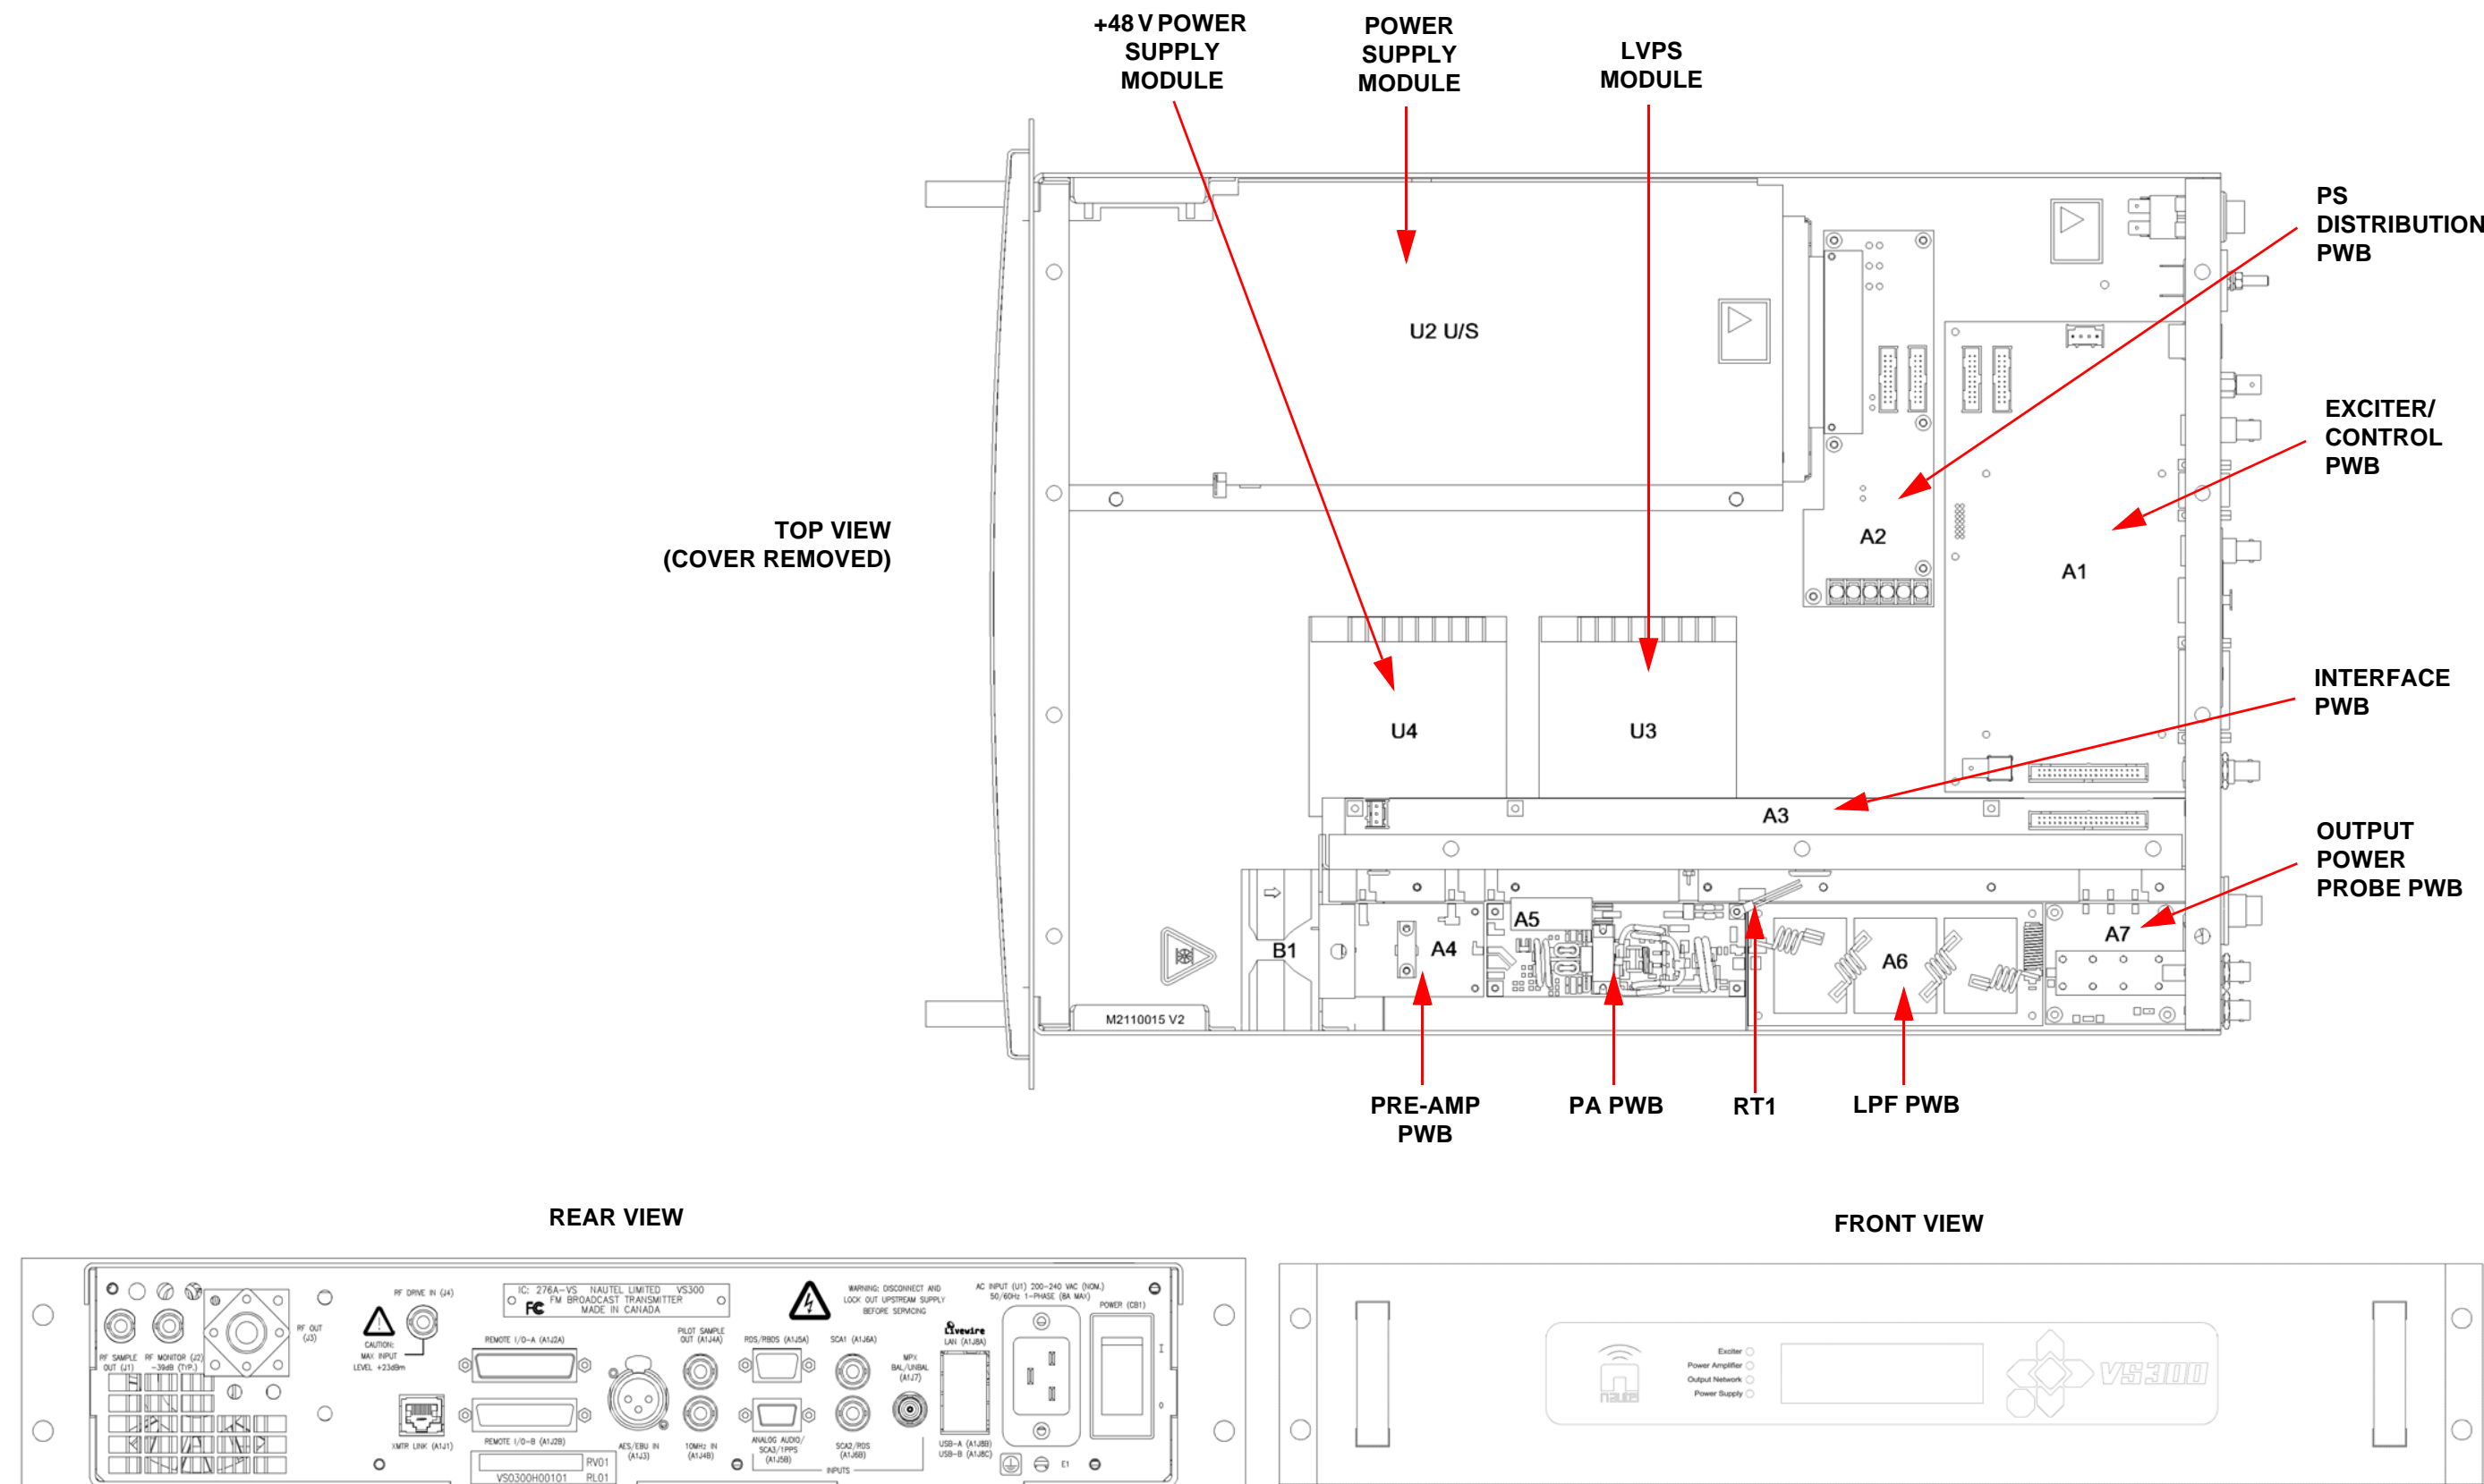

Figure MD-1: VS300 Transmitter (Front and Top Views)
3. Refer to Table 6.1 in Section 6, “Mechanical Drawings” on page 6-1. Use the Nautel nomenclature and name of each family tree block in the path, starting at the highest assembly – this is normally Figure MD-1 – to determine the figure number(s) for that assembly.